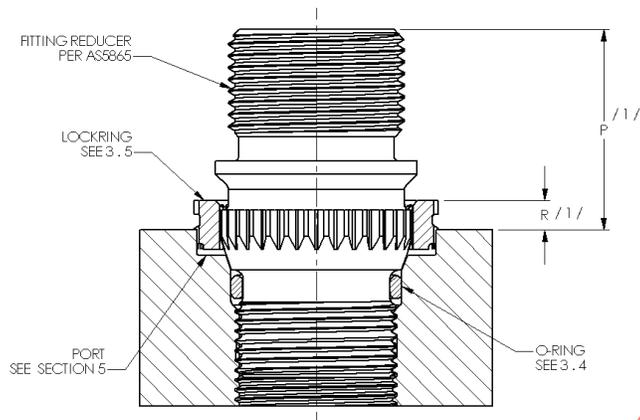

FIGURE 2 - Installed Fitting Reducer Assembly
- 3.3 Fitting reducer assembly per AS5865 installed per this document into ports prepared per Section 5 shall have stand-off dimensions "P" and "R" in Figure 2 and Table 2A.